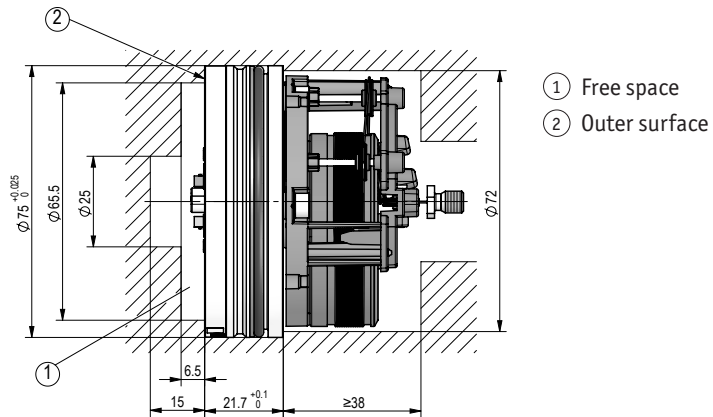

Fig. 3: Mounting free space
- ▶ Observe free space (see Fig. 3). Draw-wire encoder may only be supported on the aluminium outer surface.
1. Plug the cable ① without flange enclosures on the SGH25. When installing, the cable ① (e.g. KV1H) should be directed to the cable outlet from the bottom part of the cylinder.
2. Carefully press the SGH25 with greased sealing ring ③ into the the bottom part of the cylinder. Make care that the plug insert ④ and the cable won't be pinched, by pulling out the plug insert trough the plug outlet on the bottom part of the cylinder. Join the plug insert with the flange enclosures incl. greased O-ring and screw it 4x at the intended position. The axial fixing can be done with a securing bolt screw ⑤ as shown in fig. 3. Tighten the threaded pin slightly (approx. 0.5Nm) and then turn back again approx. 0.5 turns. The threaded pin must be sealed depending on the ambient conditions.